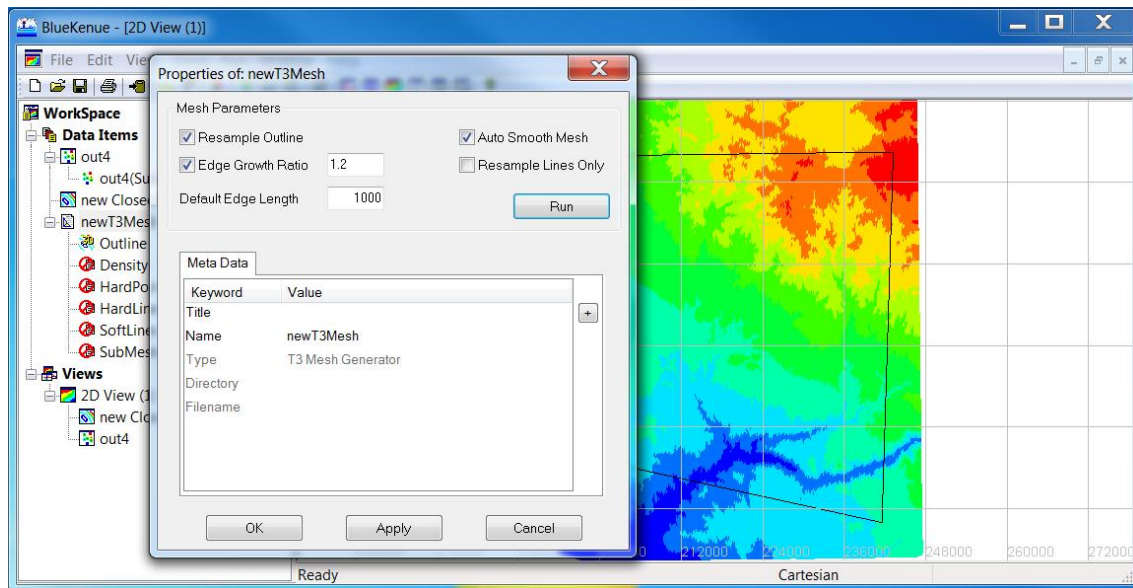

Figure A109: Select edge length for elements and run.
7. Double click on new T3 Mesh and press *run* (Figures A109 and A110) Pages 91 & 92